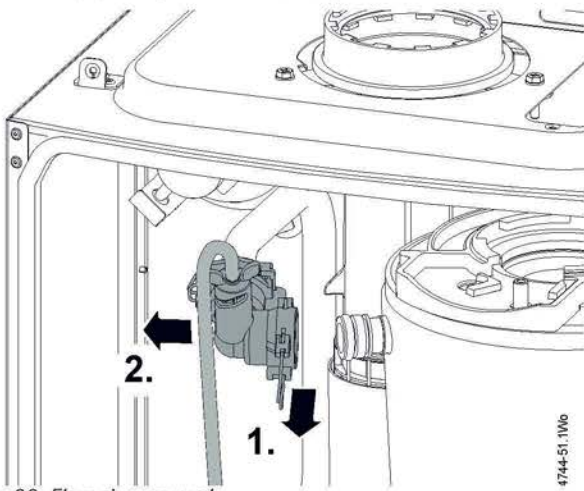

Fig. 88 Flow pipe removal
1. Refer to figure 88, remove the clip from the elbow on the flow pipe.